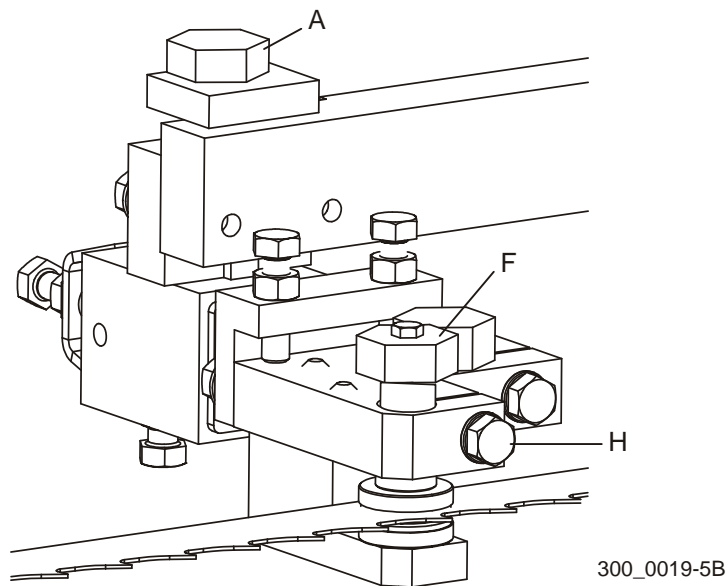

FIG. 7-9
See Figure 7-9. Use bolt (A) to adjust each blade guide assembly down, then back up so there is a slight gap between the bottom guide disks and the blade. Loosen clamp bolt (H) and turn bolt (F) clockwise to adjust the top disk down until the blade is firmly clamped between the guide disks.